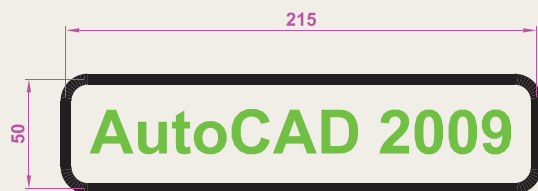

Fig. 6.31 Exercise 5
5. Using the text style **Arial** of height **20** and enclosing the wording within a pline rectangle of Width = 5 and Fillet = 10, construct the drawing shown in Fig. 6.31.